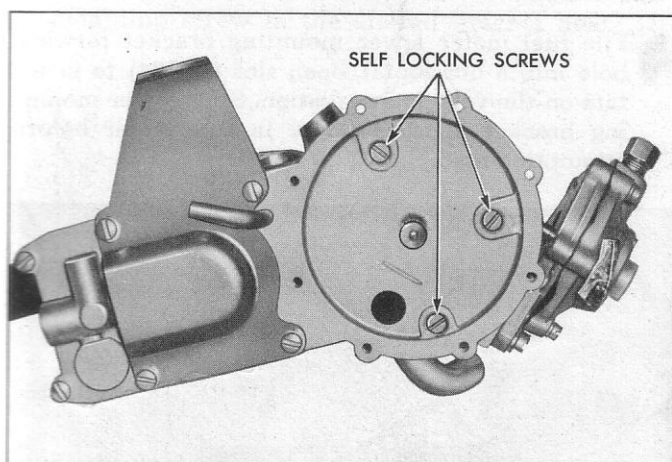

Fig. 79—Fuel Bowl Cover and Bracket Installed
7. Position fuel bowl gasket, cover and upper support bracket on fuel meter body, secure with attaching screws (fig. 79).